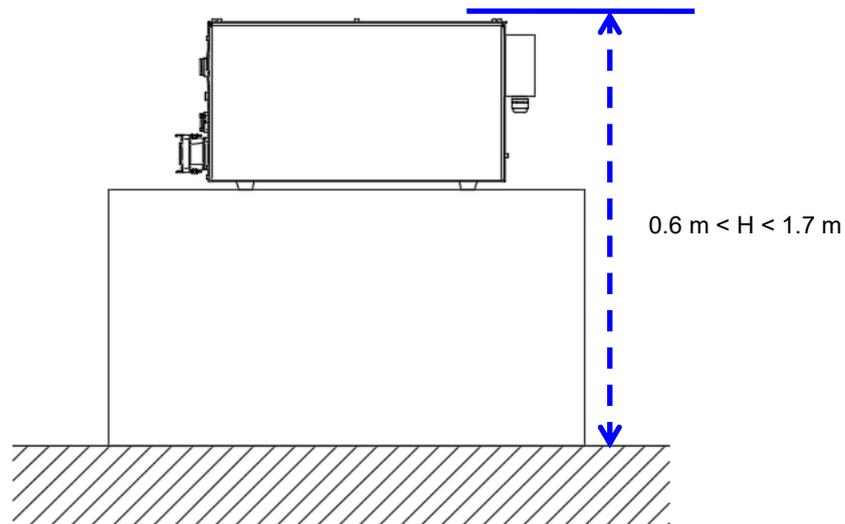

Figure 8.4 Controller installation height
- When the controller is installed outside the equipment of the final system integrator, please make sure that the height of the power control box is between 0.6 m and 1.7 m. This height makes it easier for users to operate the controller and turn the controller power on and off. Figure 8.4 below shows the height requirement for the installation of the controller.